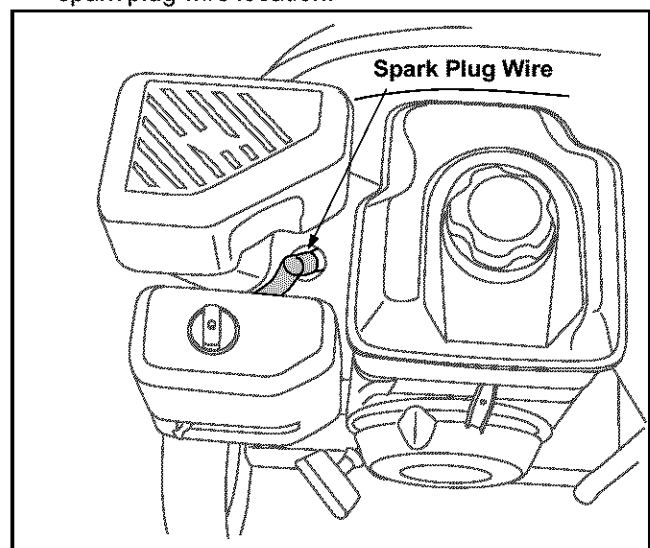

Figure 9
- If not already attached, attach spark plug wire to spark plug. Make certain the rubber boot on the end of the spark plug is snapped securely over the metal tip on the spark plug. Refer to Figure 9 for spark plug wire location.